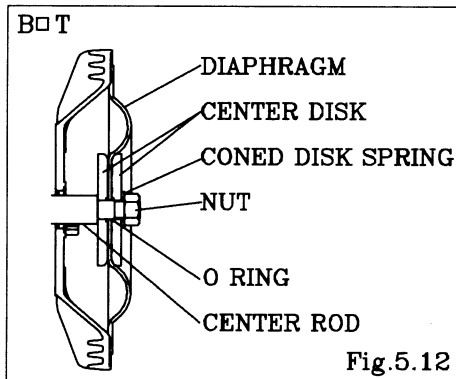

Fig.5.12
- Keep the convex side to the outside (cf. Fig. 5.12).
- Put the o'rings to both sides of the Diaphragm. (cf. Fig. 5.12)